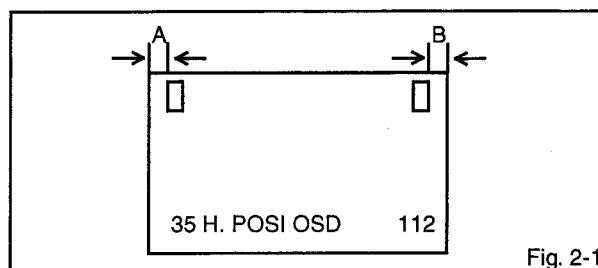

Fig. 2-1
3. until then difference of A and B becomes minimum. (Refer to **Fig. 2-1**)